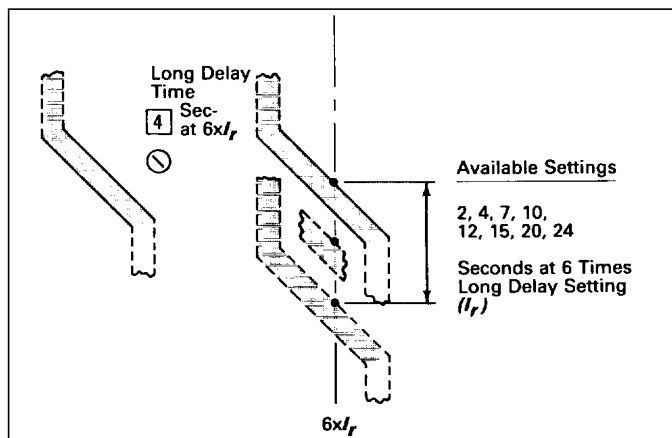

Fig. 4.2 Long Delay Time Settings
There are eight (8) available Long Delay Time Settings, as illustrated in Fig. 4.2, ranging from 2 to 24 seconds. These settings are the total clearing times when the current value equals six (6) times I_r .